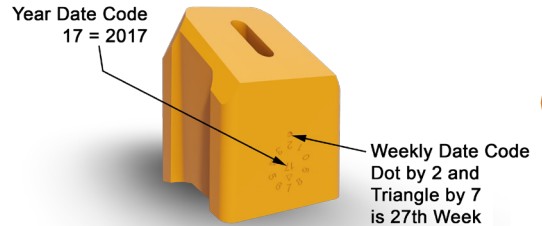

FIGURE 2.24
A. Stucki Company recommends a maximum shelf life of 5 years for all of our elastomer components, which includes RB Blocks, CSB® Columns, SSB® Elements, and RFE Pads. The shelf life is defined as the time from the manufacturing date of the parts until they are installed on the car. Please refer to Figures 2.24 and 2.25 for the proper methods of determining the manufacturing date.